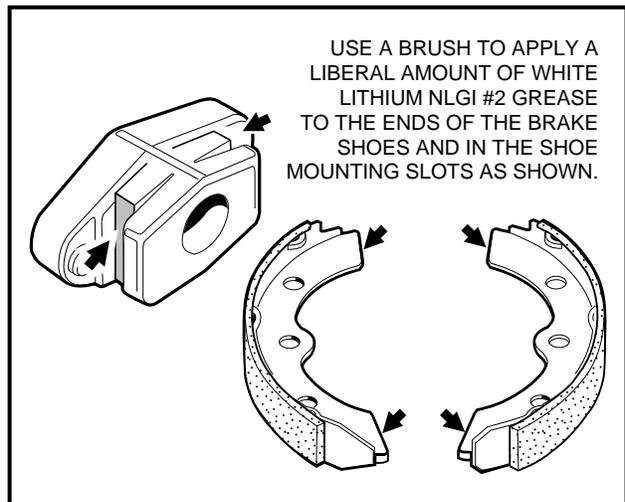

Figure 6-10 Apply Grease To Brake Shoes and Slots
- Use a brush to apply a liberal amount of white lithium NLGI #2 grease (Dow Corning® BR2-Plus or equivalent) to each end of both brake shoes and into the slots in the brake shoe mounting block as shown (**Figure 6-10, Page 6-6**). **See previous WARNING.**